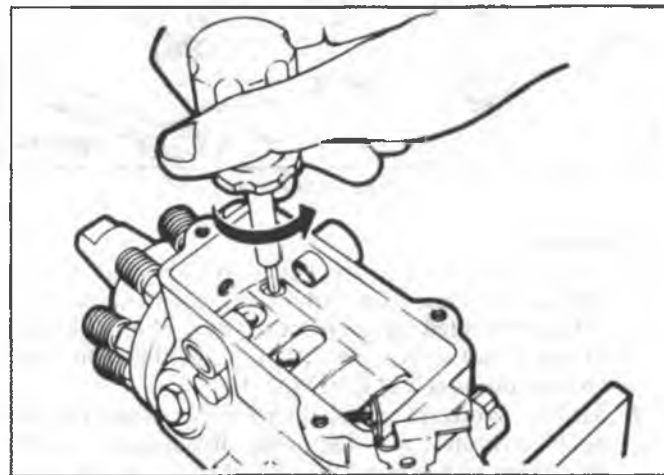
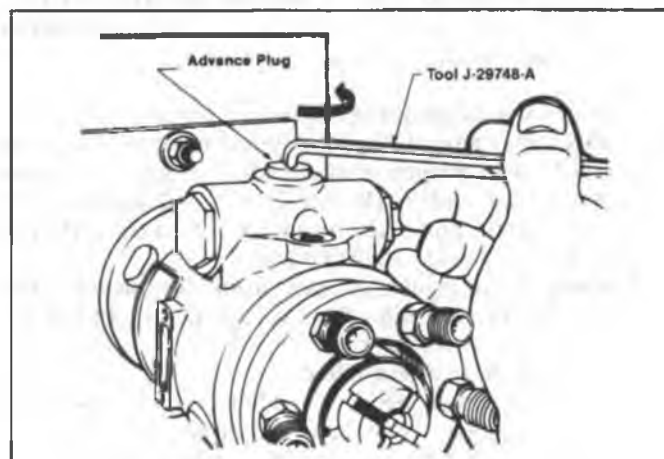

Fig. 2-28 Housing Vent Screw Assembly
Fig. 2-29 Advance Screw Hole Plug
13. Remove the housing vent screw assembly (Fig. 2-28).
14. Remove one (1) head locking screw and loosen the other.
16. Remove advance screw hole plug, using J-29748-A wrench (Fig. 2-29). On 1982 model pumps, removal is made with an allen wrench.
10. Install advance screw hole plug using new seal and lubricate. Torque 75-100 in. lbs. or 6-8 ft. lbs. Reverse the action shown in Figure 2-29.